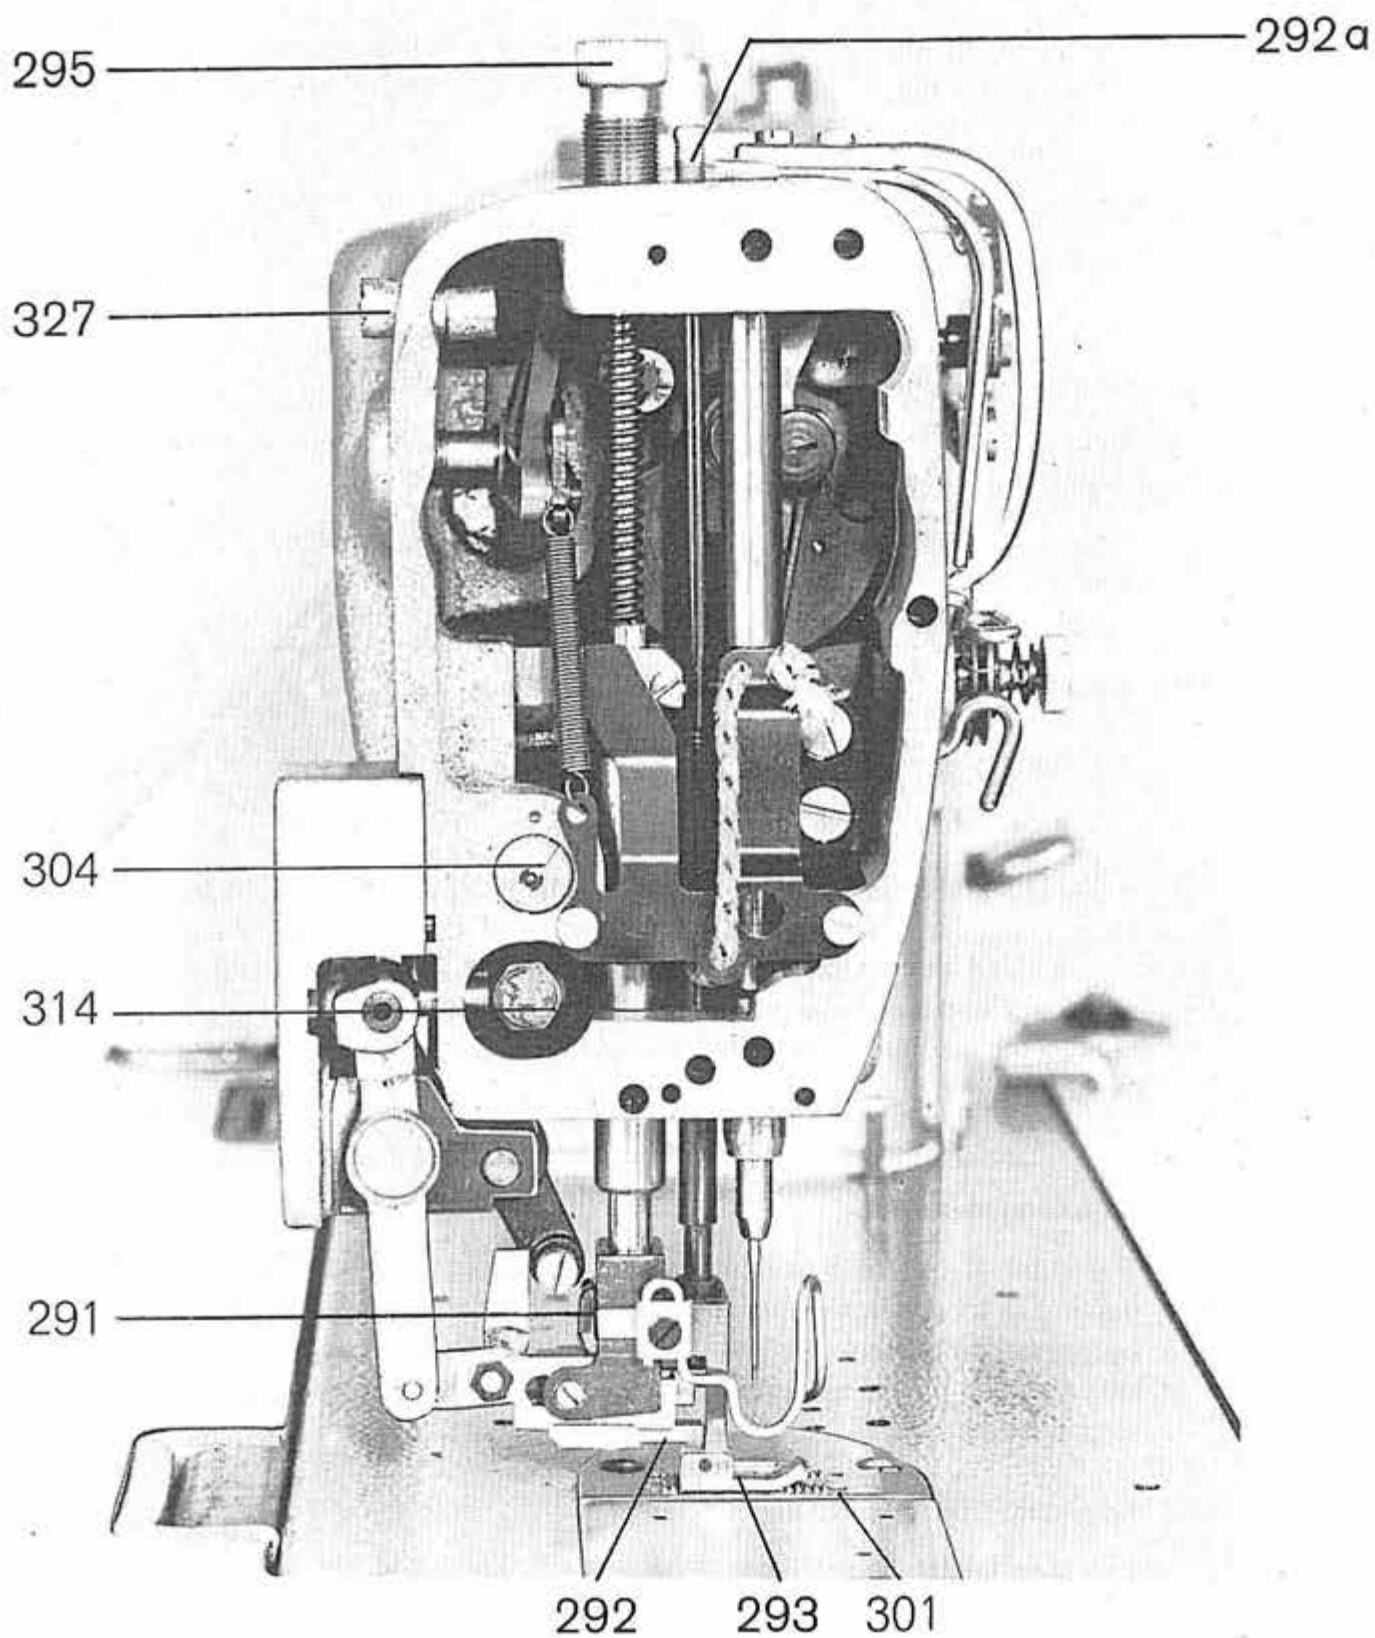
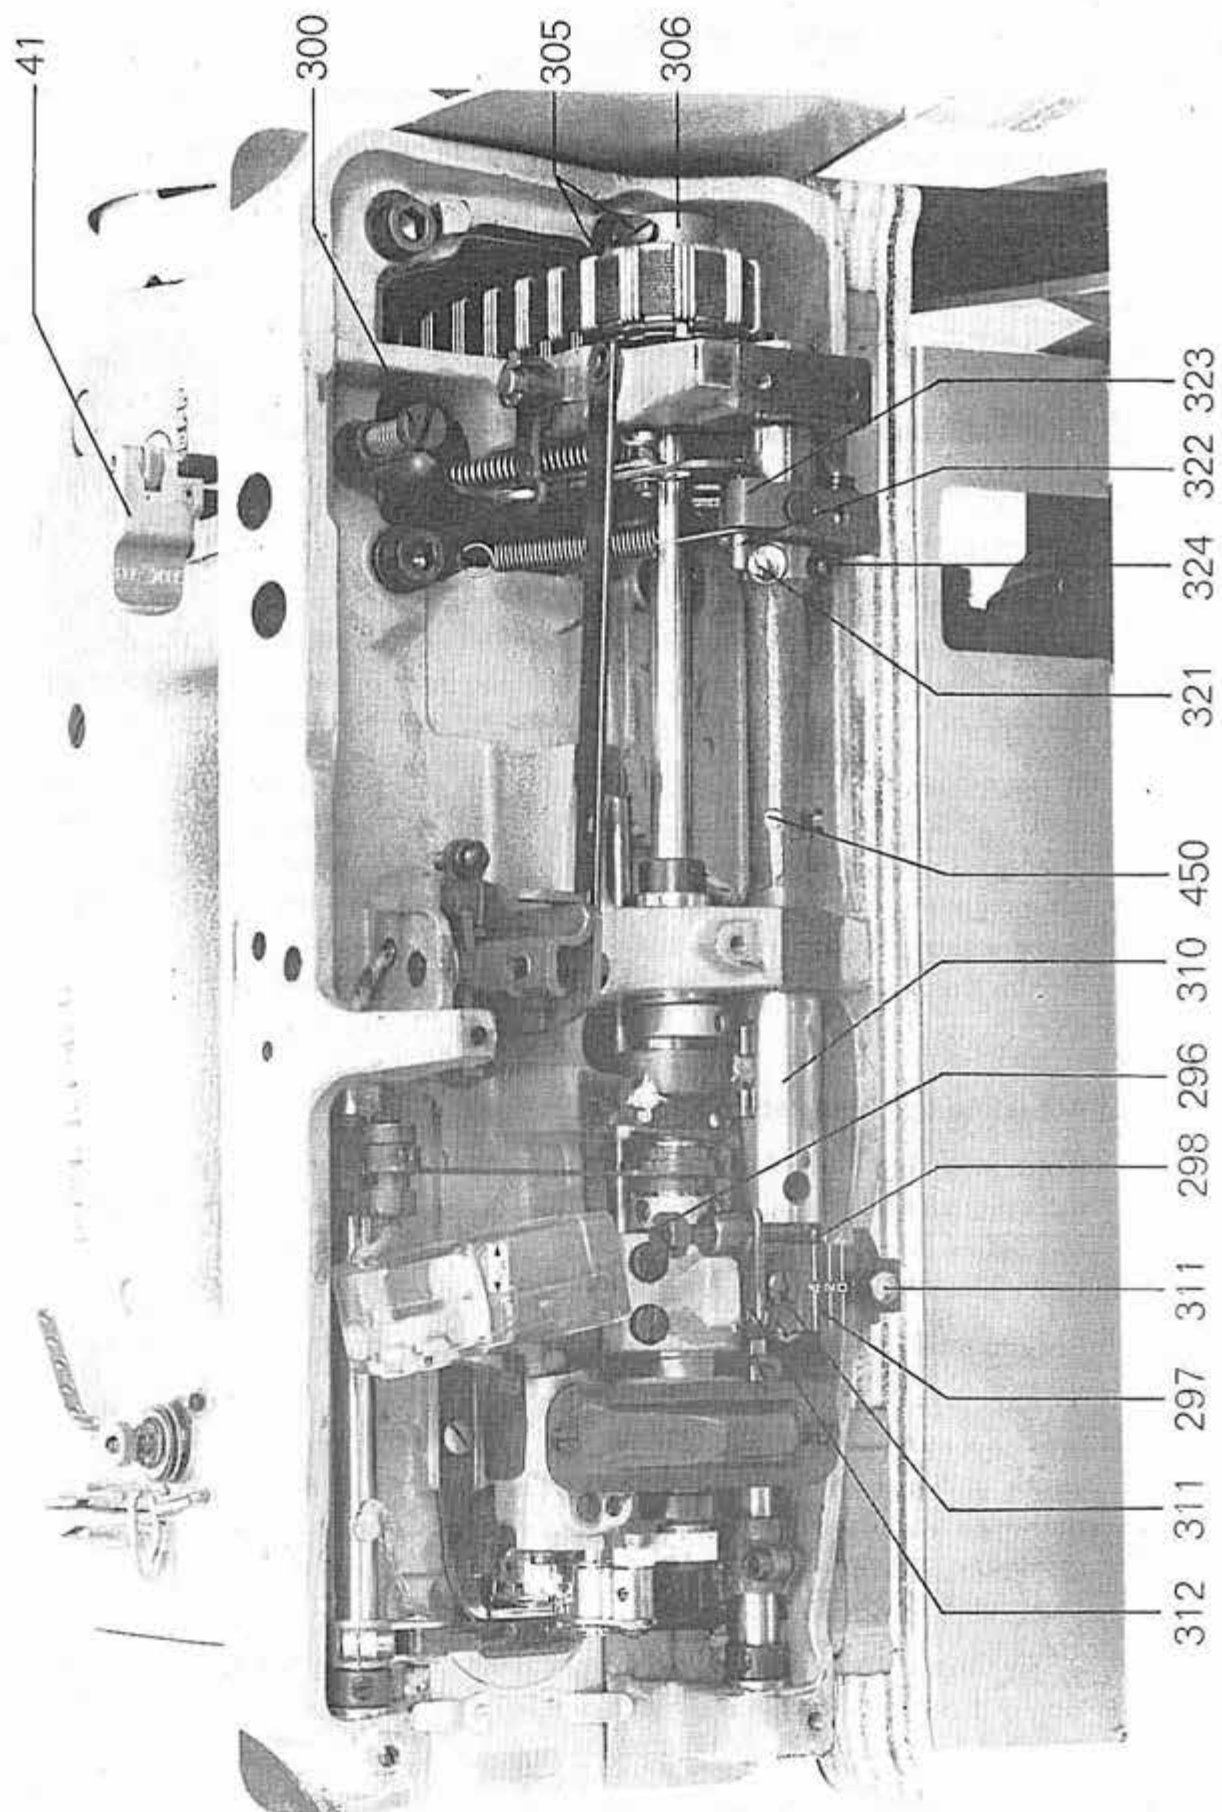

Fig. 39
Fig. 40
The bottom feed (stitch length) by the adjustable pin 450 (fig. 40) in the crank 310 in conjunction with the stop screw 296.
In addition to the lubricating points mentioned under chapters 2 and 12, lubricate also the felt 291 (fig. 39) with some drops of oil when proceeding the the weekly cleaning of DÜRKOPP 219.
The pressure of the feeding foot 292 (fig. 39) and of the presser foot 293 must be adapted to the work involved.
The stitch length is determined by the feed length of the lower feed. The maximum feed length amounts to 4 and 6 mm respectively. It is adjusted by means of stop screw 296 (fig. 40) located below base plate. The feed length set is shown by the scale 297 in conjunction with the division mark on the stop pin 298.
The feed length of the upper feed is set by the stitch regulating lever 41 (fig. 40).
When increasing the feed length by the stitch regulator lever, take care not to block the stop screw 300 (fig. 40) underneath the base plate.
The reverse feed is obtained by lowering stitch regulator lever 41 (fig. 40).
Set the lower feed by the stop screw 296 (fig. 40) and the upper feed by the stitch regulating lever 41 for the maximum feed length. Lower the needle bar from its topmost point by 2 mm by turning the handwheel in the direction of rotation. Position "C" in machines with incorporated setting gauge.
In this position, the feeding foot 292 (fig. 39) and the feed dog 301 should present the minimum movement when the stitch regulating lever 41 is being displaced between its extreme positions. In order to adjust the feeding foot for its minimum movement, loosen the screws 302 and 303 (fig. 41) and turn the eccentric bearing shaft 304 (fig. 39). For adjusting the feed dog 301, loosen the screws 305 (fig. 40) and turn the lower pulley 306 on the lower shaft.
Both lower and upper feed must be set for their zero point, i.e. when turning the handwheel in the proper direction of rotation, and when the stitch regulating lever 41 (fig. 40) and the stop pin 298 stand on "0", the feeding foot 292 and the feed dog 301 (fig. 39) should move as little as possible.
2. By turning the stop screw 296 (fig. 40) set the crank shaft so that the feed dog 301 (fig. 39) has the minimum possible movement when the handwheel is turned in the direction of rotation.
In this position of the crank, the reference mark of the stop pin should coincide with the reference mark "0" of the scale 297 (fig. 40). In the negative, loosen the screws 311 and adjust the scale accordingly. Do not reset the angular stop 312.
For obtaining this adjustment, take off the head cover, loosen the screw which is accessible through the hole 313 (fig. 41) and turn the eccentric 314 (fig. 39).
In machines with an eccentric for **low** feeding foot stroke (1.2 mm stroke, measured at the transmission lever 327, fig. 39) this distance should amount to about 0.3 mm.